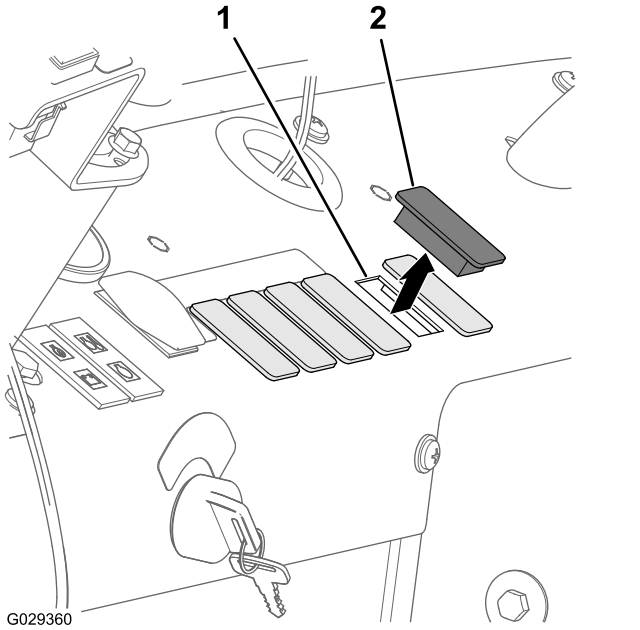
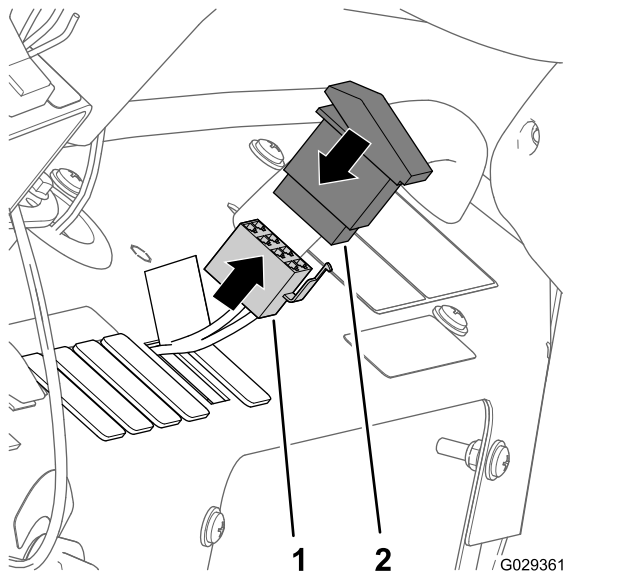

Figure 210
Figure 211
1. Remove the fifth plug to the right in the dash panel of the machine (Figure 210).
2. Align the 8-socket connector through the opening in the dash panel and connect the connector (Figure 211) to the pins at the back of the 2-position rocker switch (compressor on/off switch).
3. Assemble the switch into the dash panel and press in the switch until it snaps securely into the opening (Figure 210 and Figure 211).